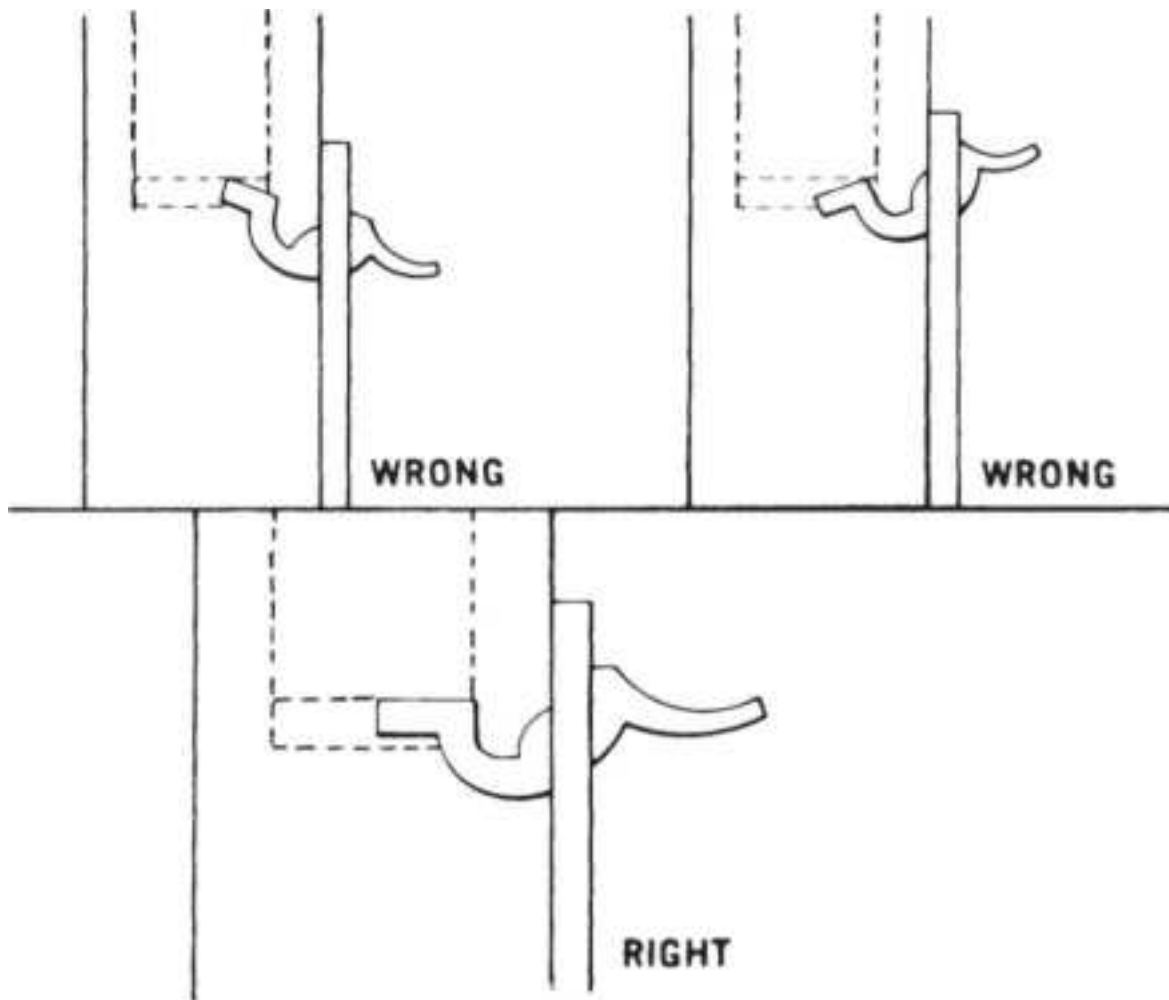

**Figure 13.34** Installing thumbpiece.
***Problem 10: Thumbpiece trim doesn't retract latchbolt completely or doesn't extend bolt completely.*** Check for binding at inside trim; or, if the outside thumbpiece trim is used in conjunction with the inside panic device, check to see if it is operating properly and is not dogged down. Remove the thumbpiece and check the position of thumbpiece in relation to the latch trip at the bottom of the mortise lock case. When properly installed, the top of the thumbpiece should be up against the bottom of the latch trip but not lifting it (Fig. 13.34 ). If the bolt doesn't retract fully when the thumbpiece is pushed down, the thumbpiece is too low on the door. Move the trim up as needed. If the bolt doesn't extend completely when the thumbpiece is released, the thumbpiece is too high on the door. Move the trim down as needed. If the trim is fixed and cannot be moved, carefully bend the thumbpiece tail up or down.